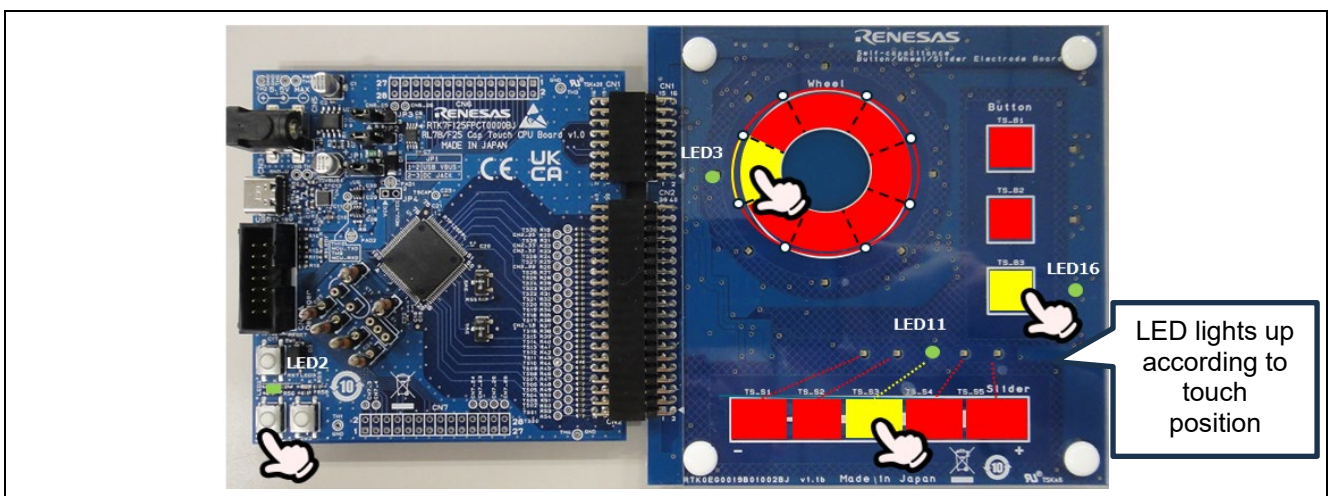

Figure 1-2 LED Control in Conjunction with Capacitive Touch Buttons, Slider, and Wheel Movements
2. The LEDs are controlled in conjunction with the operation of the three buttons, wheel, and slider on the touch electrode board. (See Figure 1-2). LED control is performed in conjunction with the push button on CPU board. Pressing SW2, LED2 lights up. Pressing SW3, LED3 lights up. (See Figure 1-2)